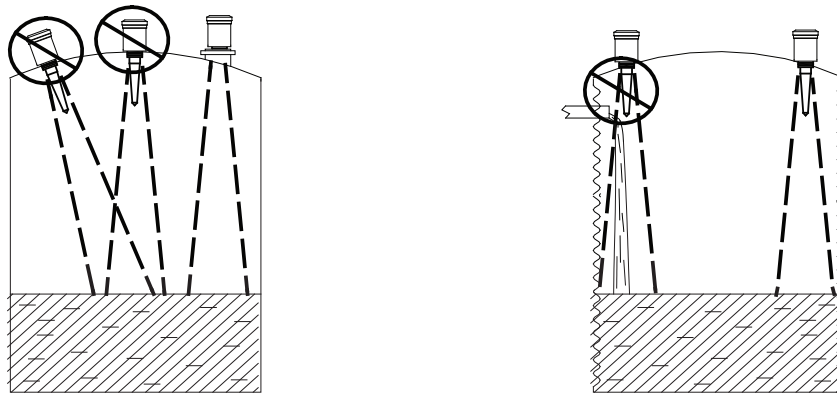

Figure 2.1
- Mount your True Echo™ series radar so that it has a clear, perpendicular path to the surface being monitored. Your sensor should be mounted away from tank or vessel inlets. Do not mount radar in center of domed tank. (See Figure 2.1)